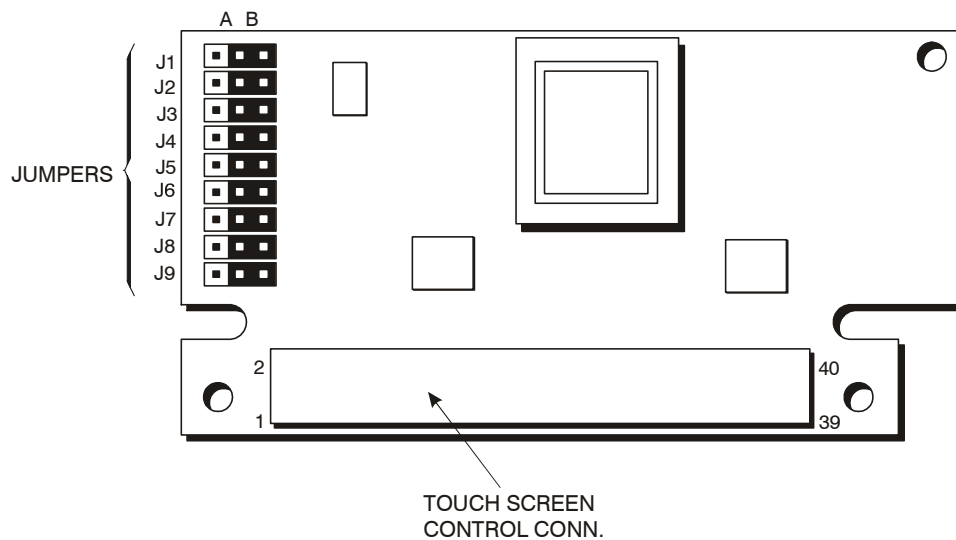

Figure 3-18B. Touchscreen controller card
3. Remove the touchscreen controller card (see Figure 3-18B).